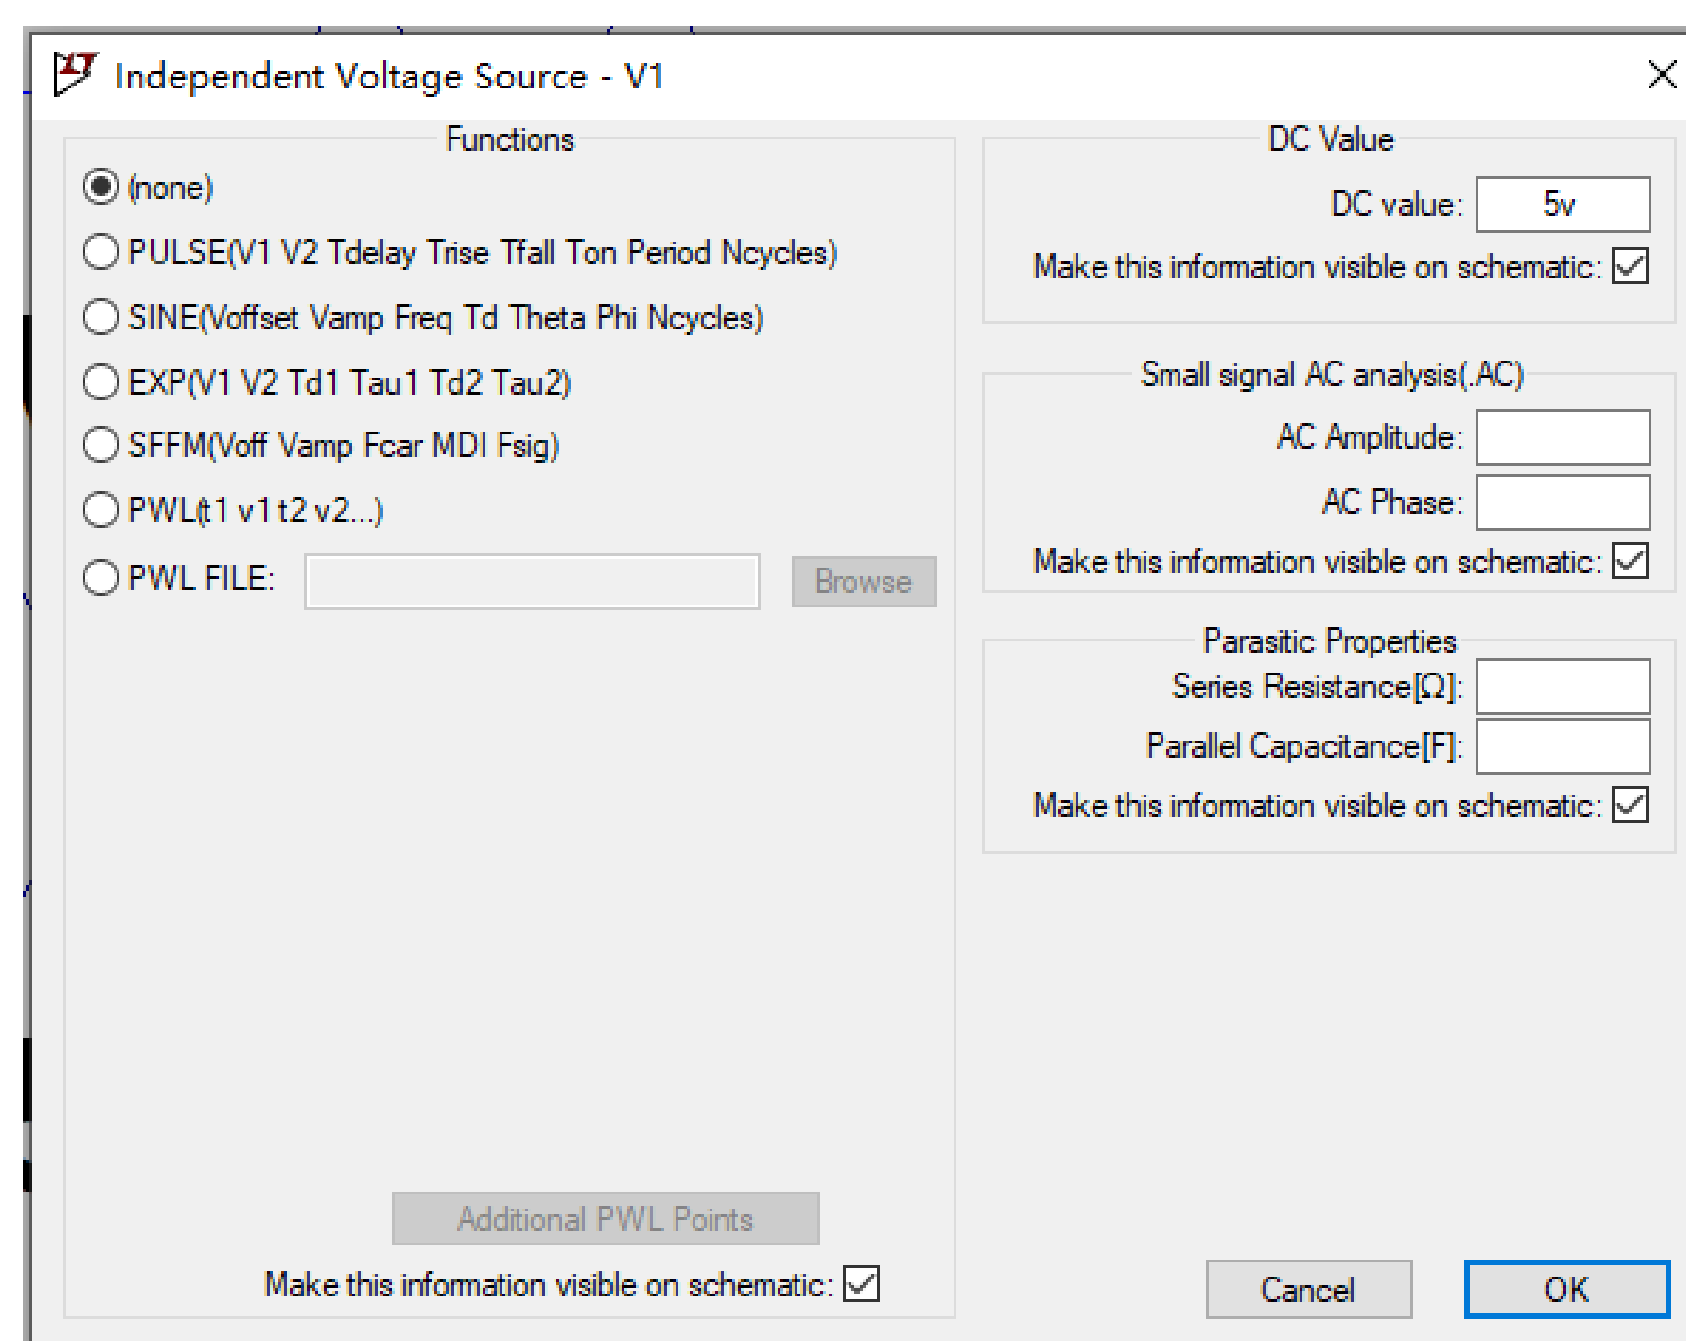

Figure 8: V1 settings
5. Next, we will set V1. Right-click on it and choose *advance*. Copy the value show in Figure 8. The different function choices are: